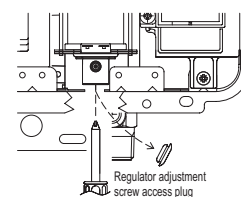

Fig. 4
11. Remove rubber access plug and adjust the regulator screw on the modulating valve (Fig.4) as required in Table 1. Replace rubber access plug.